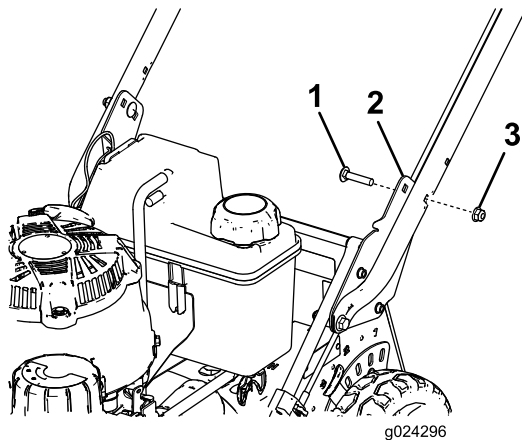

**Figure 4**
4. Stand behind the machine in the operating position to determine the handle height that is most comfortable for you (Figure 4).